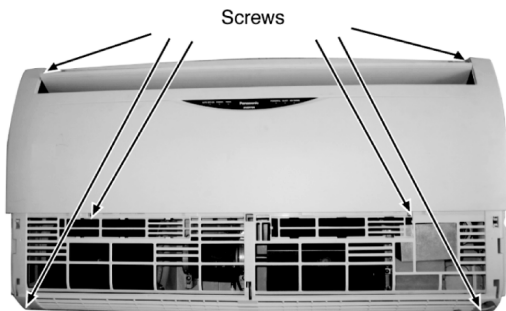

Fig. 2
2. Remove the Front Grille by removing the screws (Fig. 2).
2. Remove the Control Board Cover by removing the screws (Fig. 2).